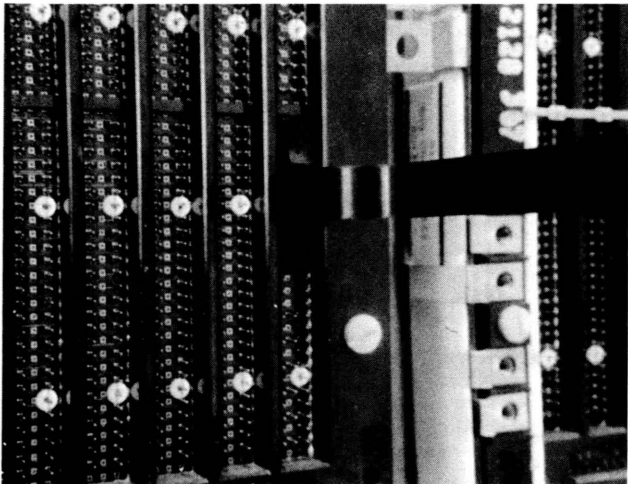

Figure 2-29. Card Side Pin Alignment
1. Place the card side pin aligner (part 453868) over the signal pin so that the board pins enter the cone-shaped holes in the face of the tool. The long portion of the tool handle should be at a right angle to the board surface (Figure 2-29).